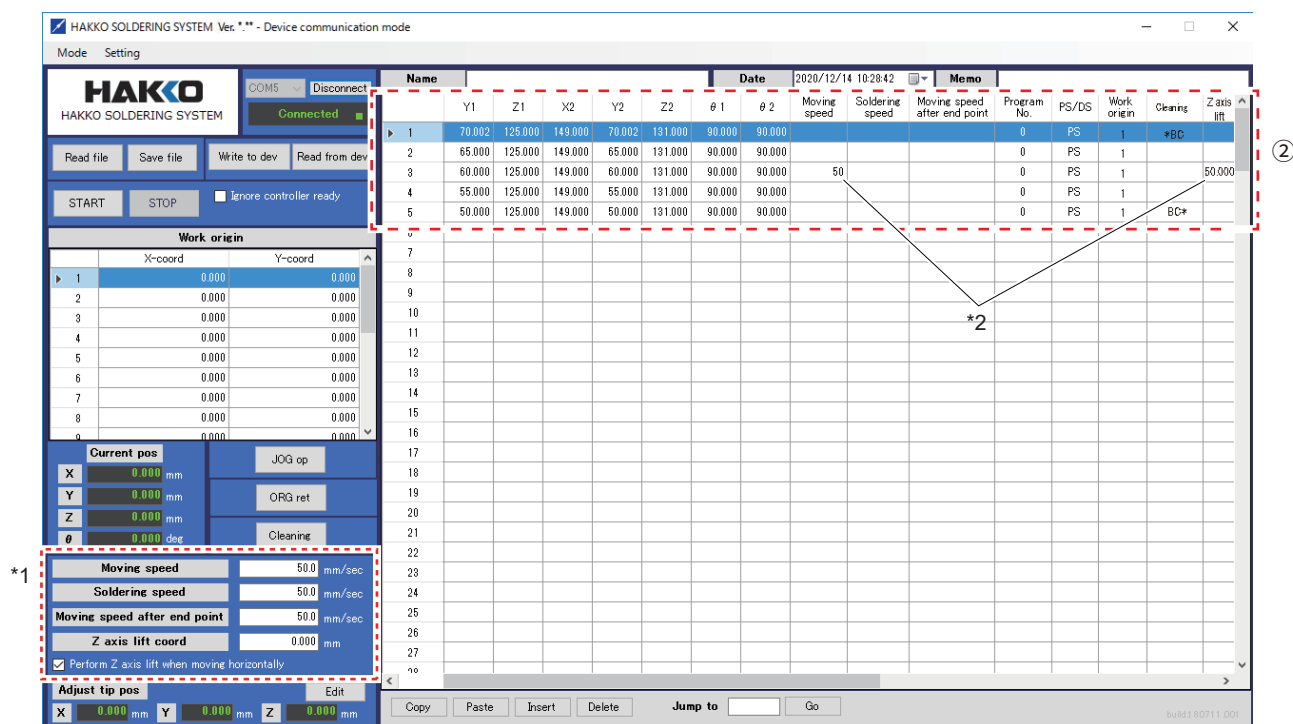

Fig. 7-69
\*1 When value is not set in the Edit point screen, the value in the top screen is reflected (See Fig. 7-69).
\*2 When value is set in the Edit point screen, the value in the Edit point screen is reflected (See Fig. 7-69).
- After creating program to the 5th point, the top screen will be as Fig. 7-69, showing setting of point soldering to the fifth line.